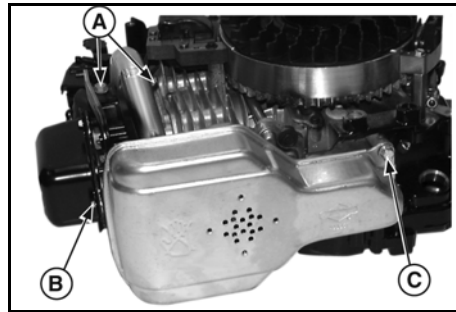

Figure 20
- Remove screws (A, Figure 20) holding exhaust pipe flange to cylinder head.
- Remove screw (B) holding muffler bracket to cylinder head.
- Remove screw (C) holding muffler to cylinder.